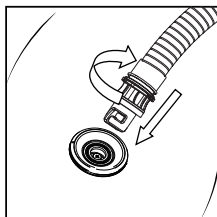

Figure 6
- Connect the other end of the hose with the air nozzle that matches the air bag, and insert the inflation valve of the air bag. Turn it clockwise to fix it as shown in Figure 6.